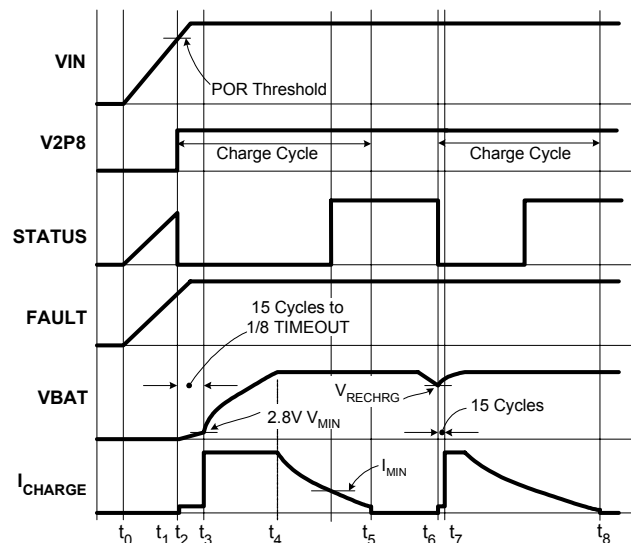

FIGURE 19. OPERATION WAVEFORMS
Figure 19 illustrates the typical signal waveforms for the linear charger from the power-up to a recharge cycle. More detailed Applications Information is given below.
The ISL6292 resets itself as the input voltage rises above the POR rising threshold. The V2P8 pin outputs a 2.8V voltage, the internal oscillator starts to oscillate, the internal timer is reset, and the charger begins to charge the battery. The two indication pins, STATUS and FAULT, indicate a LOW and a HIGH logic signal respectively. Figure 19 illustrates the start up of the charger between t_0 to t_2 .
A charge cycle consists of three charge modes: trickle mode, constant current (CC) mode, and constant voltage (CV) mode. The charge cycle always starts with the trickle mode until the battery voltage stays above V_{MIN} (2.8V typical) for 15 consecutive cycles of the internal oscillator. If the battery voltage drops below V_{MIN} during the 15 cycles, the 15-cycle counter is reset and the charger stays in the trickle mode. The charger moves to the CC mode after verifying the battery voltage. As the battery-pack terminal voltage rises to the final charge voltage V_{CH} , the CV mode begins. The terminal voltage is regulated at the constant V_{CH} in the CV mode and the charge current is expected to decline. After the charge current drops below I_{MIN} (programmable for the 4x4 and 5x5 package and programmed to 1/10 of I_{REF} for the 3x3 package, see End-of-Charge Current for more detail), the ISL6292 indicates the end-of-charge (EOC) with the STATUS pin. The charging actually does not terminate until the internal timer completes its length of TIMEOUT in order to bring the battery to its full capacity. Signals in a charge cycle are illustrated in Figure 19 between points t_2 to t_5 .
After a charge cycle completes, charging is prohibited until the battery voltage drops to a recharge threshold, V_{RECHRG} (see Electrical Specifications). Then a new charge cycle starts at point t_6 and ends at point t_8 , as shown in Figure 19. The safety timer is reset at t_6 .
The trickle mode charge has a time limit of 1/8 TIMEOUT. If the battery voltage does not reach V_{MIN} within this limit, a TIMEOUT fault is issued and the charger latches up. The charger stays in trickle mode for at least 15 cycles of the internal oscillator and, at most, 1/8 of TIMEOUT, as shown in Figure 19.
The end-of-charge current I_{MIN} sets the level at which the charger starts to indicate the end of the charge with the STATUS pin, as shown in Figure 19. The charger actually does not terminate charging until the end of the TIMEOUT, as described in the Total Charge Time section. The I_{MIN} is set in two ways, by connecting a resistor between the IMIN pin and ground, or by connecting the IMIN pin to the V2P8 pin. When programming with the resistor, the I_{MIN} is set in the equation below.